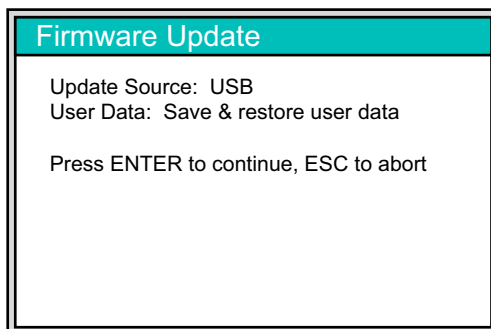

Figure E-6. Firmware Update Message Box
5. The Firmware Update message box is displayed and directs you to press ENTER to continue or to press ESC to abort (Figure E-6).